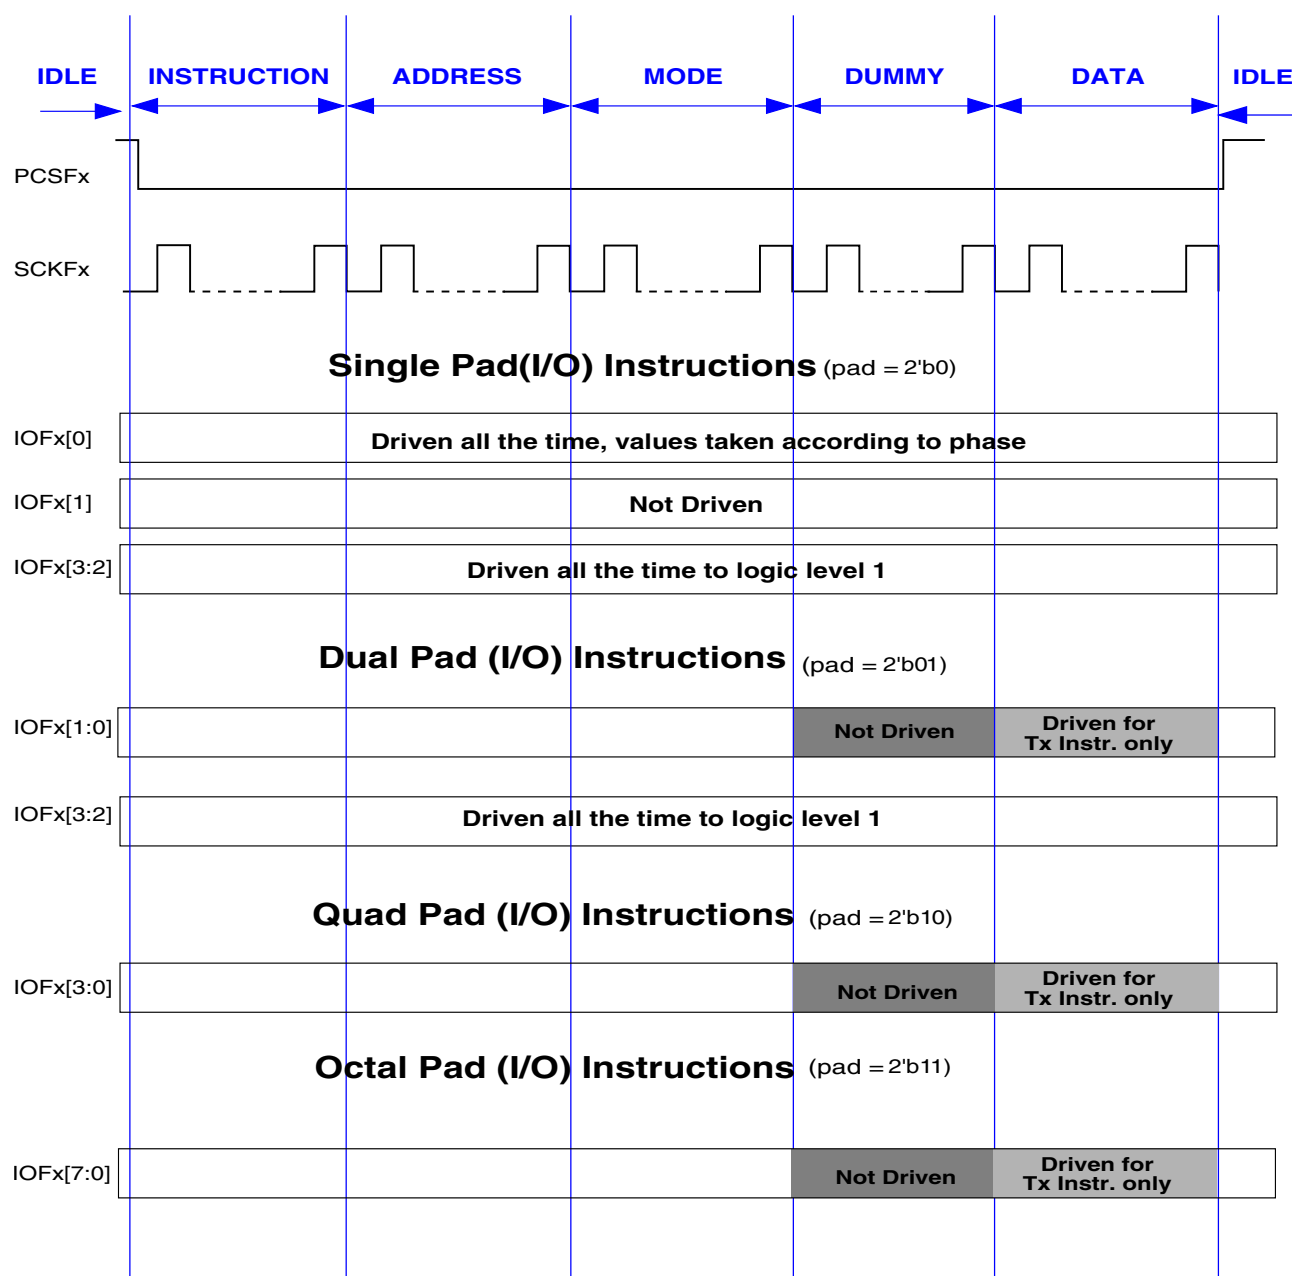

Figure 37-3. Serial Flash Access Scheme
- **DUMMY:** Dummy clocks are provided to the serial flash device. Refer to the Figure 37-3 for the IOFx signals driven. The actual data lines required for the SFM Command executed are not driven for data read commands. Note that this phase is not applicable for all SFM Commands.